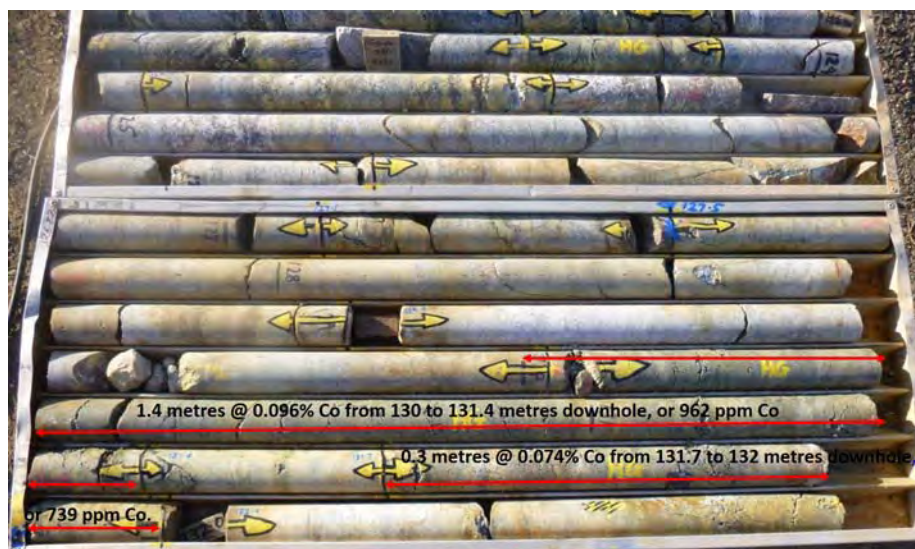
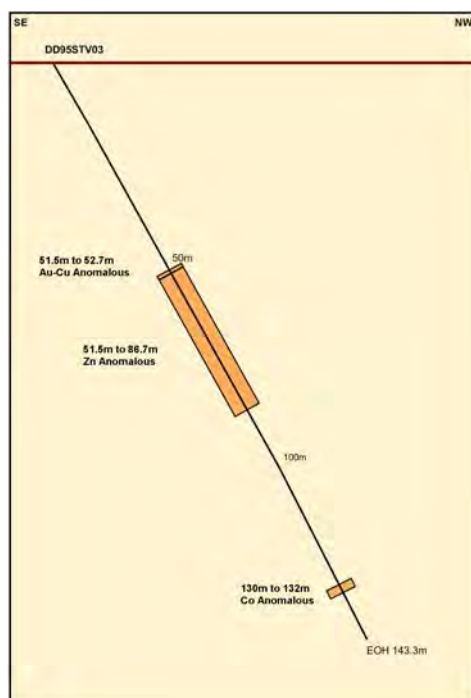

Figure 11: Pyrite zone in DD95STV3 from around 123 m to 133 m relogged.
Figure 14: DD95STV3 Anomalous cobalt, gold, and zinc zones.
2. Secondly, two zones of Broken Hill Type Lode Unit type have been identified from 51.5 m to 52.7 m (1.2 m wide) and from 85.5 m to 86.9 m (1.4 m wide). See **Figures 11 to 13** respectively with assay results overlaid. A summary cross section of the drill hole is shown in **Figure 14**.